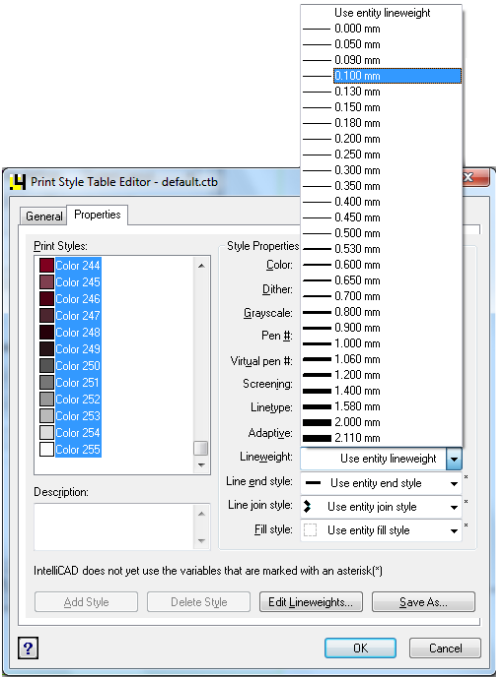

Fig. 323 – marked list of colours and lineweight selection
- as a result, all positions will be selected at the same time (Fig. 323);